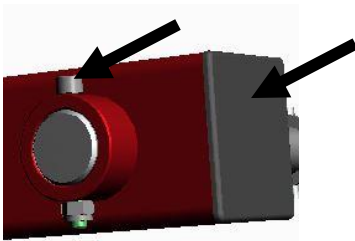

Figure 4
- Install the 45x300 pin in the flange frame and fasten it with a M10x80 cylinder screw and the M10 lock nut (Figure 4).
- Install the 100x100 plastic plug on the end of the flange frame (Figure 4).